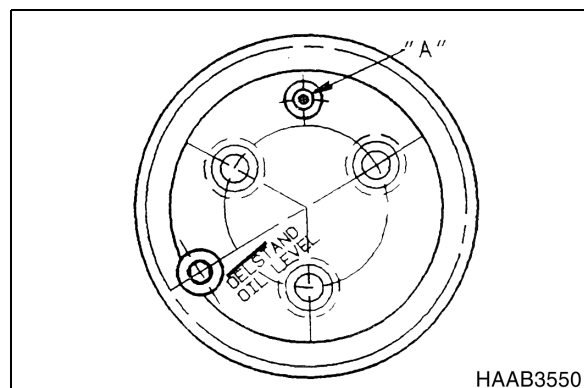

Figure 13
1. Turn the wheel head until the screw plug "A" is in top position (12 o'clock position), see Figure 13.